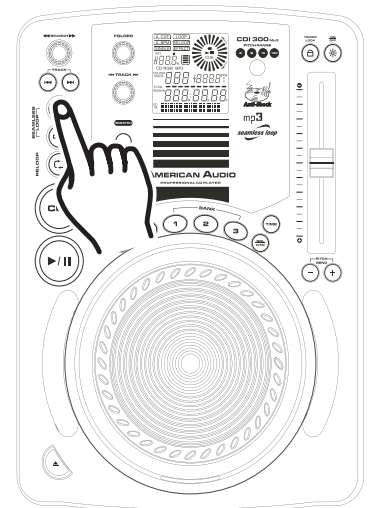

Figure 14
A cue point is the exact point playback will begin when the *PLAY/PAUSE BUTTON (15)* is pressed. You may set your cue points anywhere on a disc or in a track. You may set up to four independent cue points per disc. Four cue points are stored in the *BANK BUTTONS 1-3 (9)* and one is shared by the *IN BUTTON (21)* and the *CUE BUTTON (17)*. There are two (2) ways to set and create a CUE point as detailed in figures 14 and 15
- 1) You may press the *IN BUTTON (21)* on the fly (while the disc is playing). This will set a CUE Point without music interruption. Pressing the *CUE BUTTON (17)* will now return you to the same point that you pressed the *IN BUTTON (21)*. You may now store this CUE Point in any of the *BANK BUTTONS 1-3 (9)*. Pressing the *CUE BUTTON (17)* or the *IN BUTTON (21)* will now return you to this exact point.